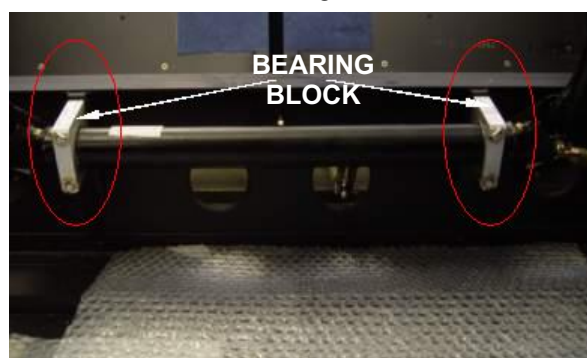

Figure 4b
- The 3.2x11.1 rivets into the control cross tube bearing block attachment are properly inserted after replacement (Figure 4b)